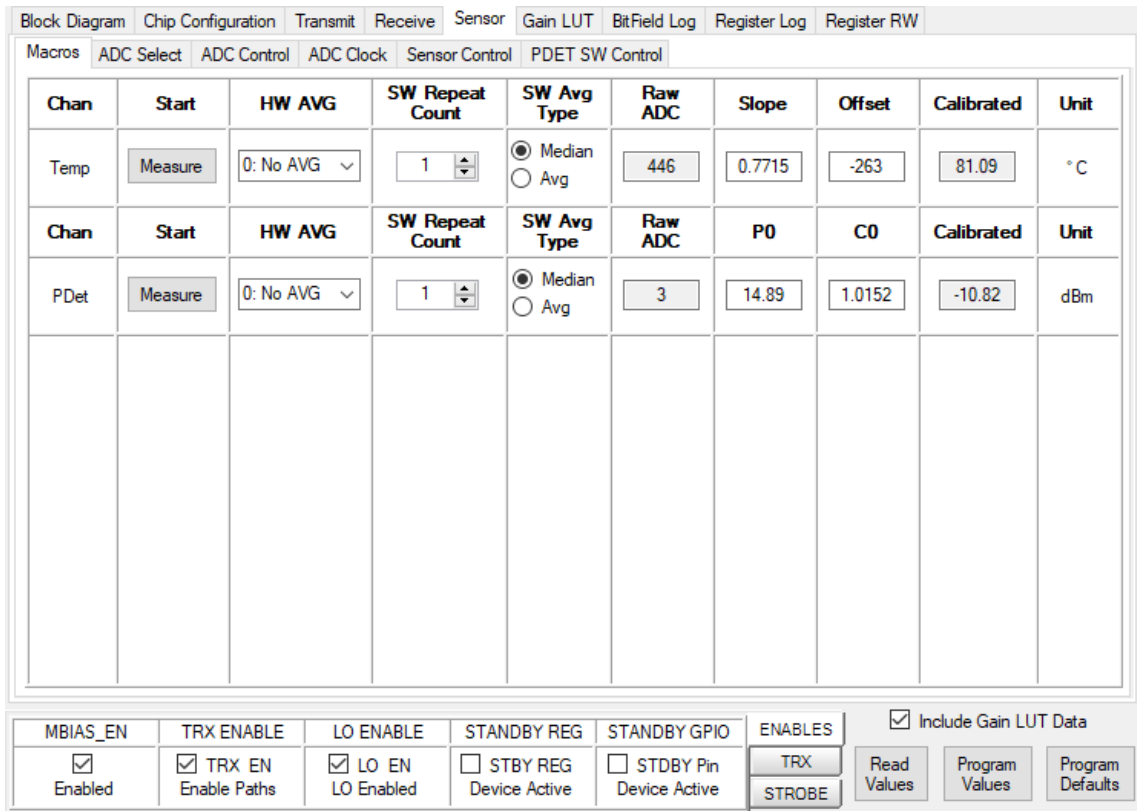

Figure 19. Sensor: Macros Panel
14. Sensor control panel can be accessed by selecting **Sensor** panel tab (Figure 5, item 10). While individual settings relating to temperature sensor and power detector (PDET) can be controlled, a **Macros** panel (Figure 19) is provided for quick evaluation.